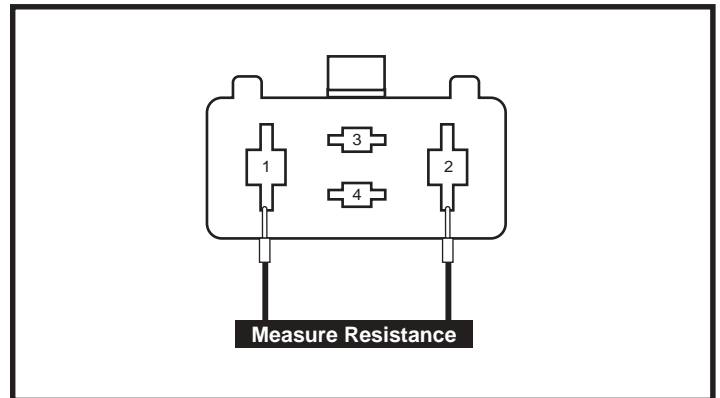

Figure 20. Connector 9a
2. Measure resistance from pin 1 to pin 2 on connector 9a. **See figure 20.**